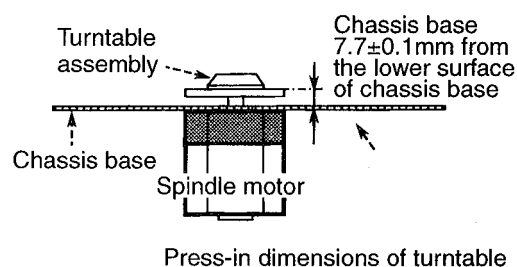

Fig. 30
(See Figs. 30 ~ 32)
1. Press in the turntable assembly to the spindle motor according to the dimensions in Fig. 30.